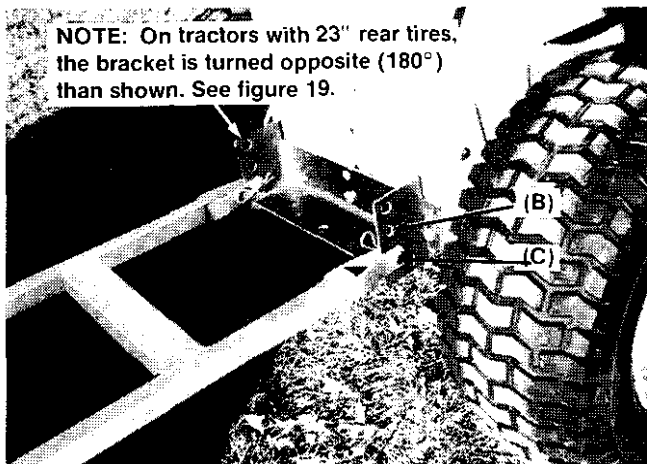

Figure 26.
- a. Attach the cart to the tractor by aligning the two ends of the H-frame to the holes in the bracket (figure 26). Use the holes that will make the **cart** level. Secure the cart to the bracket with **two clevis pins** and **hairpin cotters**.